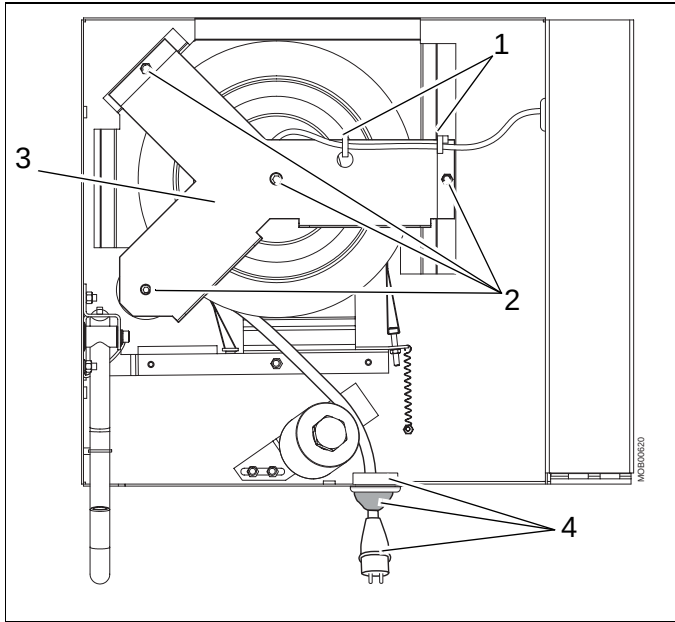

Fig. 4
- Remove the two cable ties (pos. 1 / Fig. 4).
- Remove the four screws and four nuts (pos. 2 / Fig. 4) and Y-plate (pos. 3 / Fig. 4).